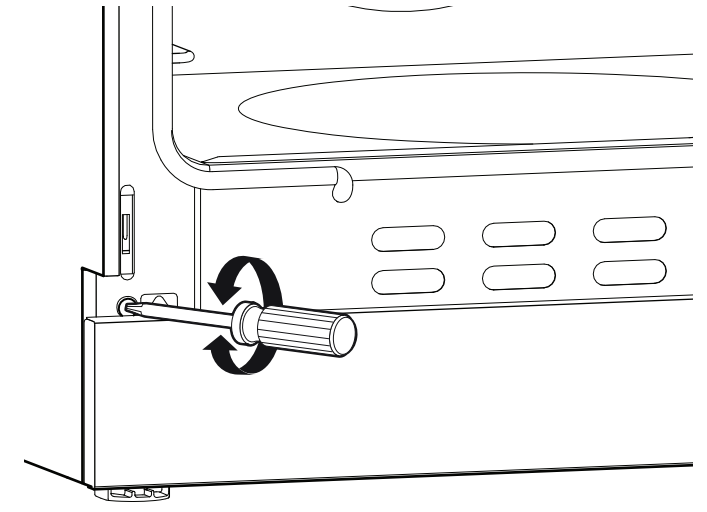

Figure 21: Hinge Receiver Adjustment Screw
4. If door or handle appears slightly tilted, you may adjust the hinge receiver by rotating the large Torx-head screw located directly below the hinge receiver with a T-20 Torx driver. Rotate each screw respective to its side and direction the door needs to be adjusted (Figure 21).